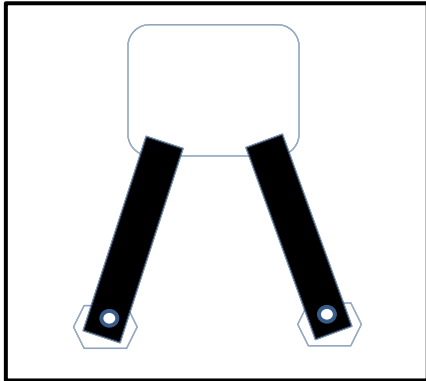

Figure 1: 09 - 16 RAM 1500, 2500, 3500, exc. 2014 1500
Step 3: Using the 3/8" threaded clips, slide two clips in the upper rectangular hole, and align one clip in each hex hole so the clip threads are visible. **Figure 1**